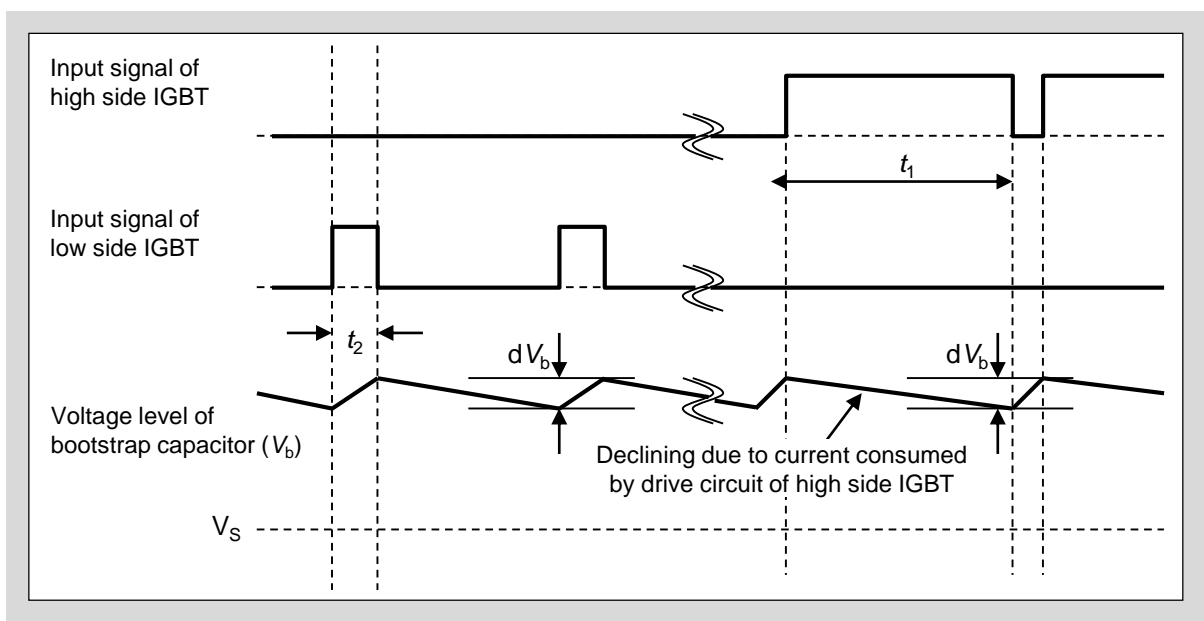

Fig.3-10 Timing chart of charging and discharging operation
dV_b : the allowable discharge voltage. (see Fig.3-10)
- However, if the control mode only has the high side IGBT switching (Sequence Fig.3-10), the time constant should be set so that the consumed energy during the ON period can be charged during the OFF period.